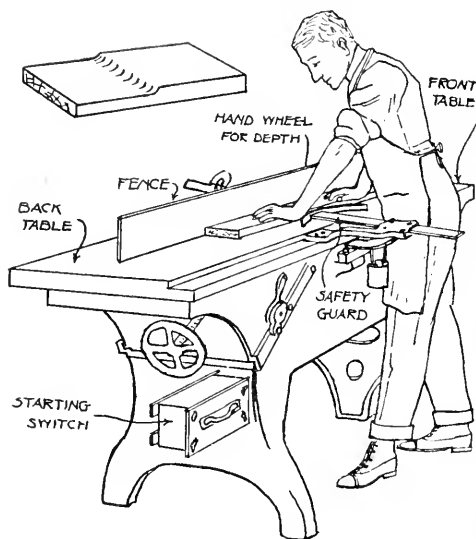
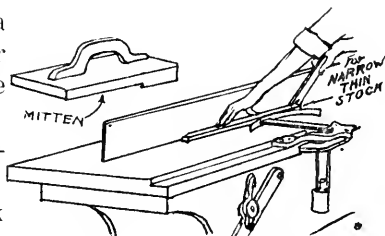
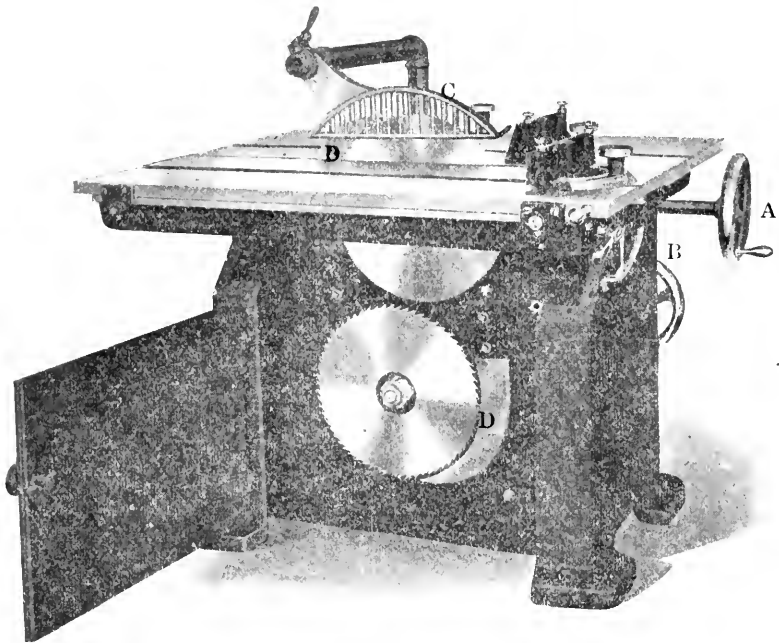

FIG. 6—WORKING FACE
FIG. 7 USING A PUSH STICK FOR NARROW STOCK.
FIG. 12--DOUBLE ARBOR SAW WITH GUARD and SPLITTERS
of a surface and to plane an edge at right angles to that face. It is also used for planing glue joints and dadoing. Fig. 6, shows a jointer with parts labeled.
**8. Tables--** The tables, Figure 6, are mounted in such a way that they can be drawn from the cutter head on a level, independently of the device for raising and lowering them. The best tables are provided with steel lips located close to the cylinder head. When the lips are of the same material as the other parts of the table they are not as serviceable. The front table, or the one at which the operator stands when he begins to run a piece of wood over the jointer, is the one that determines the size of the cut to be made on a piece of stock. The most desirable type is the one that has a hand wheel, Figure 6, on the back side of the table and permits the operator to stand in front of the machine while adjusting the depth of the cut. With the old type it is necessary to get down and reach below the machine to make this adjustment.
**9. Operation--** Assume the position in Figure 6 and be careful at all times that you do not slip, which may result in a bad accident to hands or fingers. A piece of rubber matting nailed to the floor is a great aid to easier and safer operation. Cleats are sometimes nailed to the floor when matting is not available, but are an inconvenience when sweeping.
**10. Working Face--** To plane a working face assume the position shown in Fig. 6. The piece to be planed is placed on the front table after being certain that the gauge is set for the proper thickness and pushed slowly over the revolving cylinder, being careful at all
times to keep the stock firmly on the table. This may be accomplished with both hands on the surface of the board being planed. A precaution must always be taken, especially with beginning students by using the wooden mitten shown in the top of Fig. 7. This is placed in the back end of the piece which is being shoved over the jointer. Again referring to Fig. 6, it will readily be seen how easily it is to drop the right hand down upon the revolving cylinder thus causing a very serious accident, which can be avoided by the use of the mitten and push
stick, which is also shown in Fig. 7. Be sure at all times to use the safety guard. There is only one exception to this which will be noted later. Always run the stock so that the knife will cut with the grain.
**11. Jointing An Edge--** Planing a working edge on the jointer is similar to squaring up a working edge at the bench. The piece is set against the fence and fed very slowly in a manner similar to that shown in making a working face Fig. 6. If the stock is wide so that the top edge comes above the fence and fed very slowly it will not be necessary to use the mitten or push stick. It is best always to feed the stock so that it will
The Universal saw, Fig. 12, has a hand wheel "A" for revolving the two saw arbors making it possible to change very quickly from rip to cross cut saw or vice versa, and for raising or lowering the saw which determines the distances it projects above the saw table while in use. Remember that the saw should **never project farther** above the table than is absolutely necessary for the thickness of stock being cut.
The guard "C" and splitter "D" also shown in Fig. 12 are necessary as "Safety Devices." The guard should be used at all times when possible. The splitter is a farther safeguard because it keeps the stock from pinching after it has passed the saw.
the micrometer adjustment. Notice the locating holes in the top of the table for adjusting the fence to cut very wide stock. (3) See that the clamp on the tilting hand wheel, "B" in Fig. 12 is set, and if you are using the Double Arbor Saw be sure that the clamp under the table is set so that the top will not roll. (4) Last but not least see that the guard and splitter are in place. You are now ready to shove the stock over the saw. When the end of the board starts over the saw make sure that the edge is against the fence and you will have no difficulty in ripping parallel with the edge and getting the exact width of stock for which the fence has been set. As you push the board over the saw, stand either to the right or to the left of it. Should the board twist in any way and become caught in the saw you could not stop it or get out of the way in time to prevent a serious accident. When the stock is narrow, or it becomes necessary for your hands to come near the saw use a push stick as shown in Fig. 7, while operating the jointer.